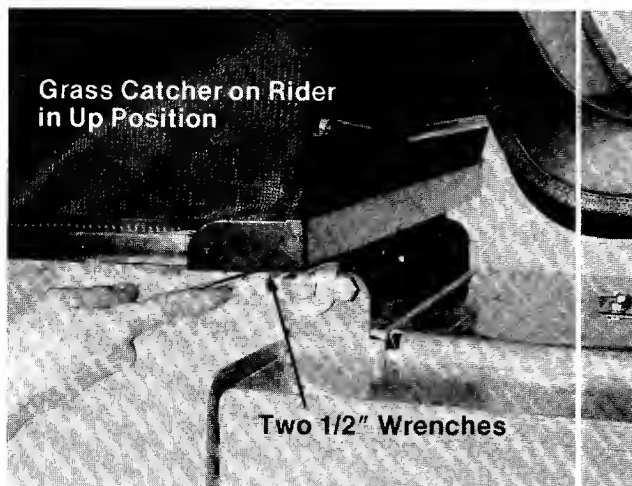

FIGURE 21.
9. Lift the grass catcher all the way up. Have someone hold grass catcher up or block up. Then with two 1/2" wrenches, tighten hinge bracket bolts securely. See figures 21 and 22.